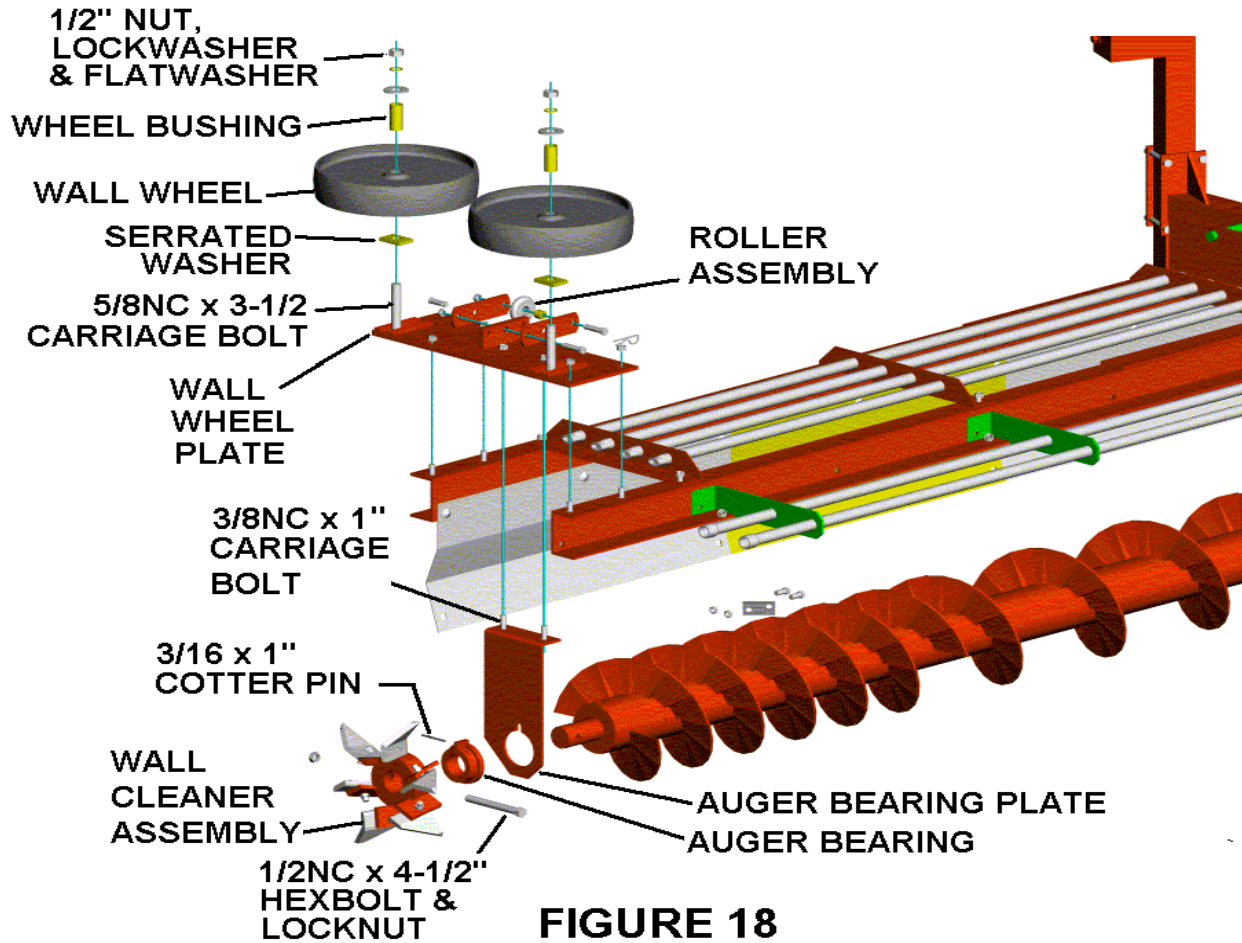

FIGURE 18
1. Assemble bearing casting assembly into the bearing plate from the auger side. Secure with a cotter pin on the wall side. See Figure 18.